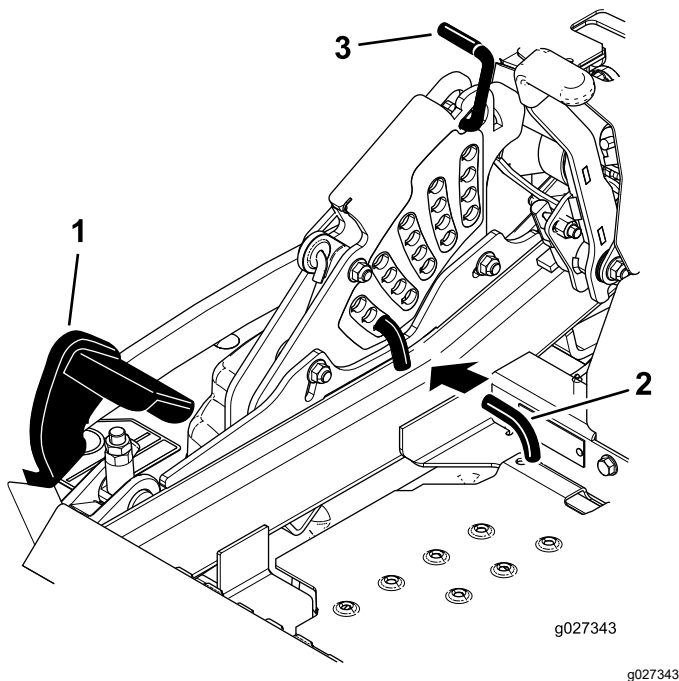

Figure 25
2. Push on the deck-lift pedal with your foot, and raise the mower deck to the transport position (also the 140 mm (5-1/2 inch) cutting height position) as shown in Figure 25.
3. To adjust, rotate the pin 90 degrees and remove the pin from the height-of-cut bracket (Figure 25).
4. Select a hole in the height-of-cut bracket corresponding to the height-of-cut desired, and insert the pin (Figure 25).